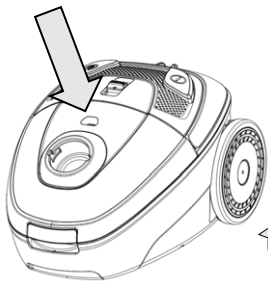

Fig 9
1. **Change the dust bag:** when the wind indicator turns to be red, it is time to clear the dust or replace with a new bag. (Fig 9)